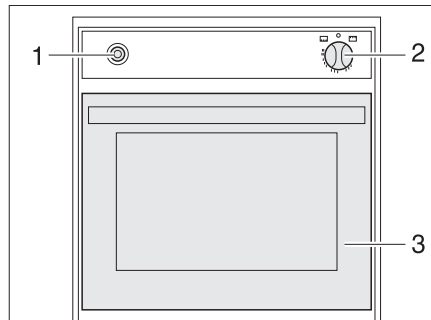

Fig. 127 Gas oven
- Fully open the oven flap (Fig. 127,3).
- Lightly press control knob (Fig. 127,2) and set to "🔥" (oven).
- Press the control knob (Fig. 127,2) and hold it down for 5 to 10 seconds. Gas will stream into the burner.
- Press the ignition switch (Fig. 127,1) repeatedly until there is a flame.
- Turn the control knob (Fig. 127,2) to "○". The flame fades.